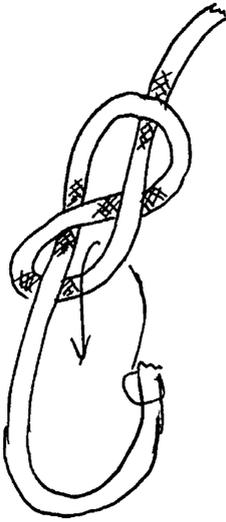

fig. 1
**O**f all knots the Bowline must rate as the King. Though it is just referred to as the single bowline or bowline. But is the bowline as we know it, a true bowline, not according to J Tom Burgess in his book "*Knots Ties and Splices*" published 1884 page 23 figure 34. To him the knot we know as the bowline is just a Plain or Ordinary Bowline. To Burgess the True Bowline Figure 1, 2 and 3. The same knot as depicted by Ashley #1025, he quotes